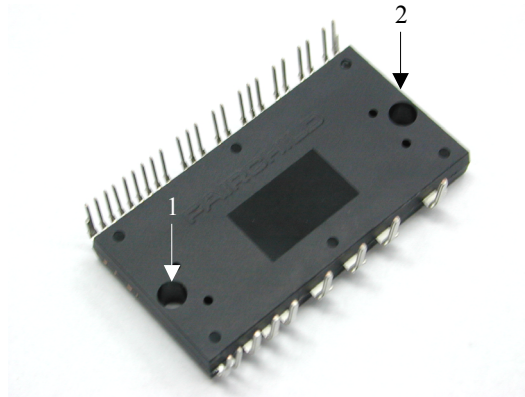

Fig. 8. Mounting Screws Torque Order
8. Avoid one side tightening stress. Fig.8 shows the recommended torque order for mounting screws. Uneven mounting can cause the SPM ceramic substrate to be damaged.